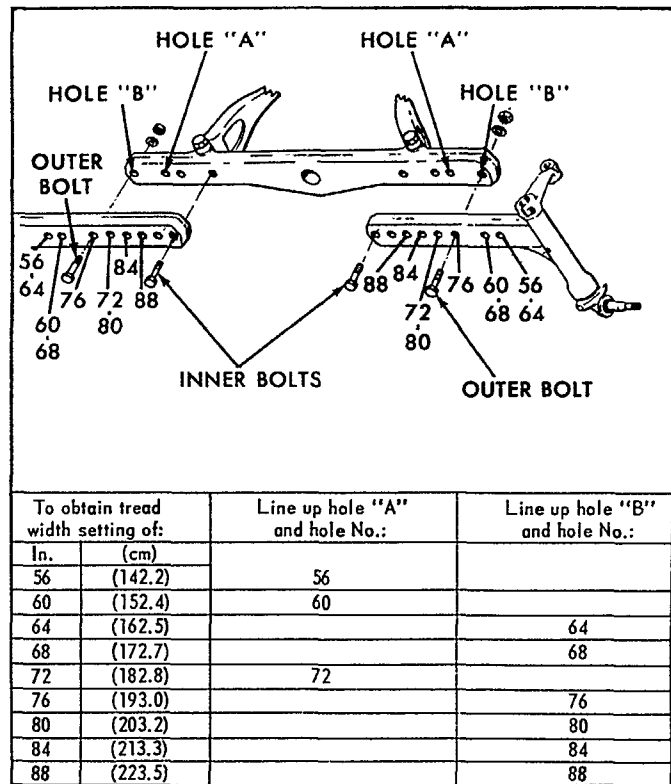

Figure 23
3. Position the axle to obtain the desired tread width setting and install the axle bolts in the appropriate holes, as indicated in Figure 23.